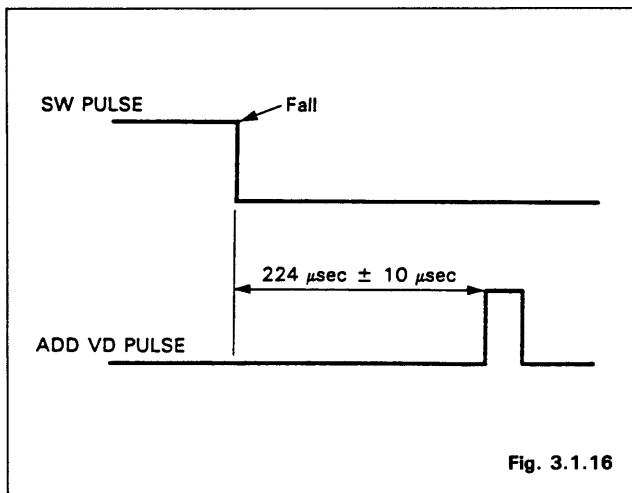

Fig. 3.1.16
1. Adjust VR706 (STILL) for 224 μ sec \pm 10 μ sec as shown in Fig. 3.1.16.